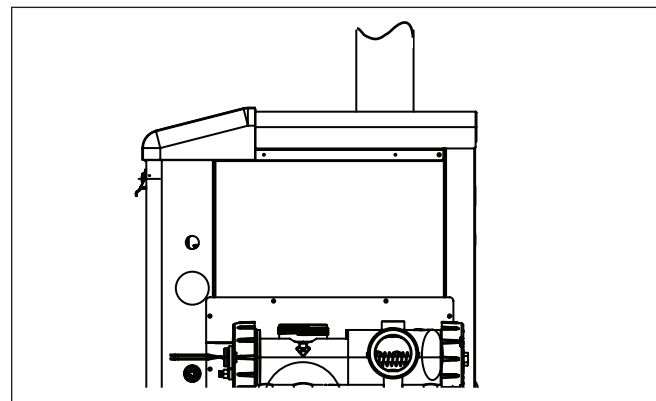

Figure 6. Vent Pipe Installation
2. Install the vent pipe on the indoor vent collar. The collar will accommodate vent piping of nominal 6", 7" or 8" diameter (see Table 4), depending upon the model of your heater (See Figure 6). See vent installation section for important information on selecting proper pipe size.